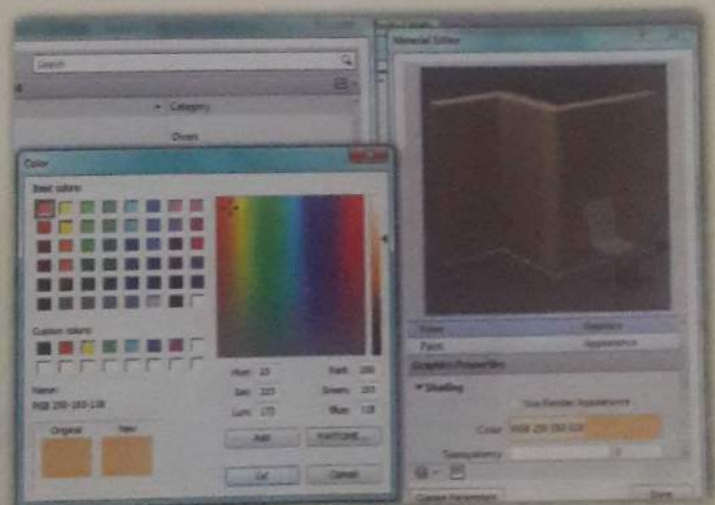

Figure 42: Selecting the graphic appearance.
- Under garphics properties, select the shading color by clicking the swatch »If requires select the surface pattern also (Figure 42).